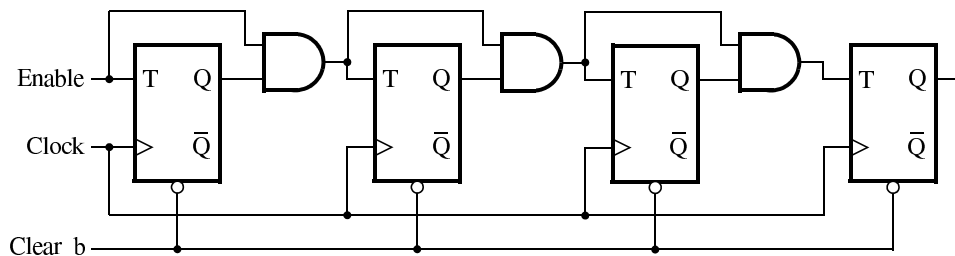

Figure 1: A 4-bit counter.
Consider the circuit in Figure 1. It is a 4-bit synchronous counter that uses four T-type flip-flops. The counter increments its value on each positive edge of the clock if the *Enable* signal is asserted. The counter is reset to 0 by setting the *Clear\_b* signal low – it is an **active-low asynchronous** clear. You are to implement an 8-bit counter of this type.
1. Draw the schematic for an 8-bit counter using the same structure as shown in Figure 1. **(PRELAB)**
7. Use the Quartus Prime RTL Viewer to see how the Quartus Prime software synthesized your circuit. You can access the RTL viewer on Quartus via Tools -> Netlist Viewers -> RTL Viewer. You can zoom into the various building blocks of your circuit by double-clicking on them, to get more information about their implementation. What are the differences in comparison with Figure 1?